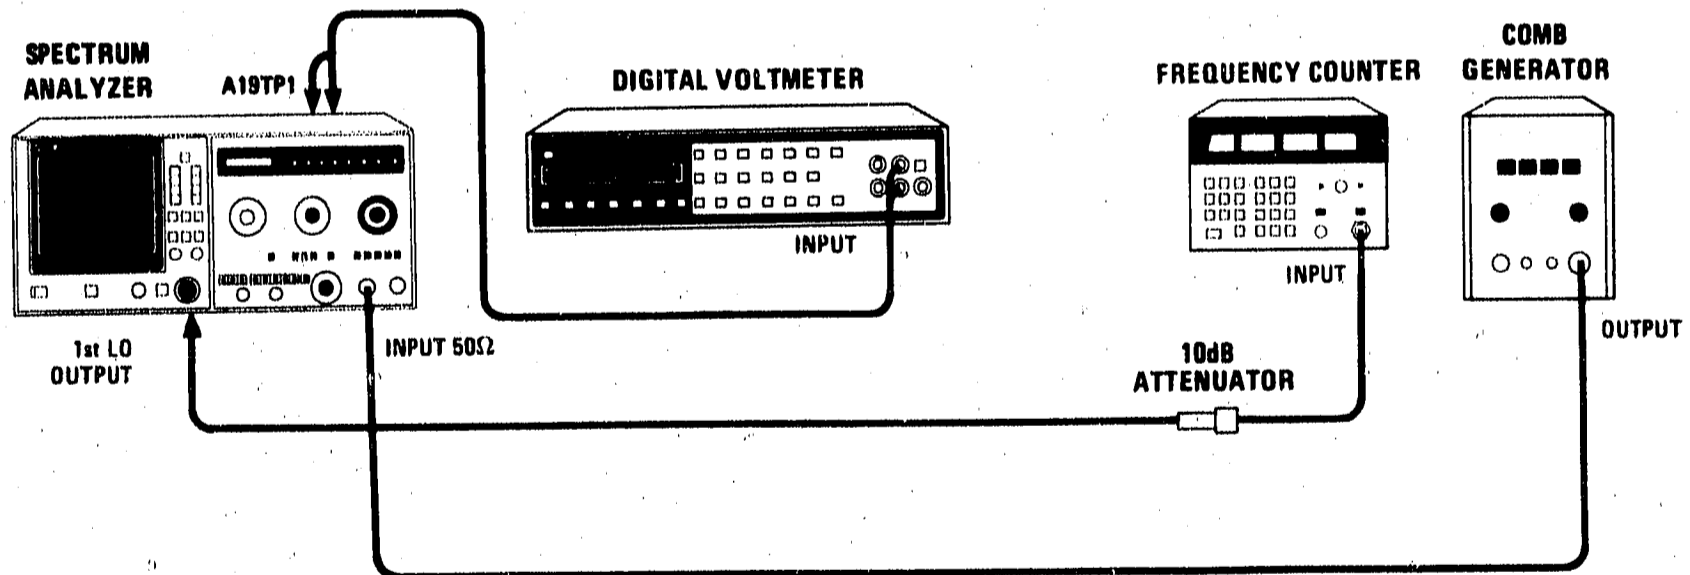

Figure 5-31. YIG Driver Adjustment Test Setup
2. Reconnect power cord, set LINE switch ON, and connect equipment as shown in Figure 5-31.